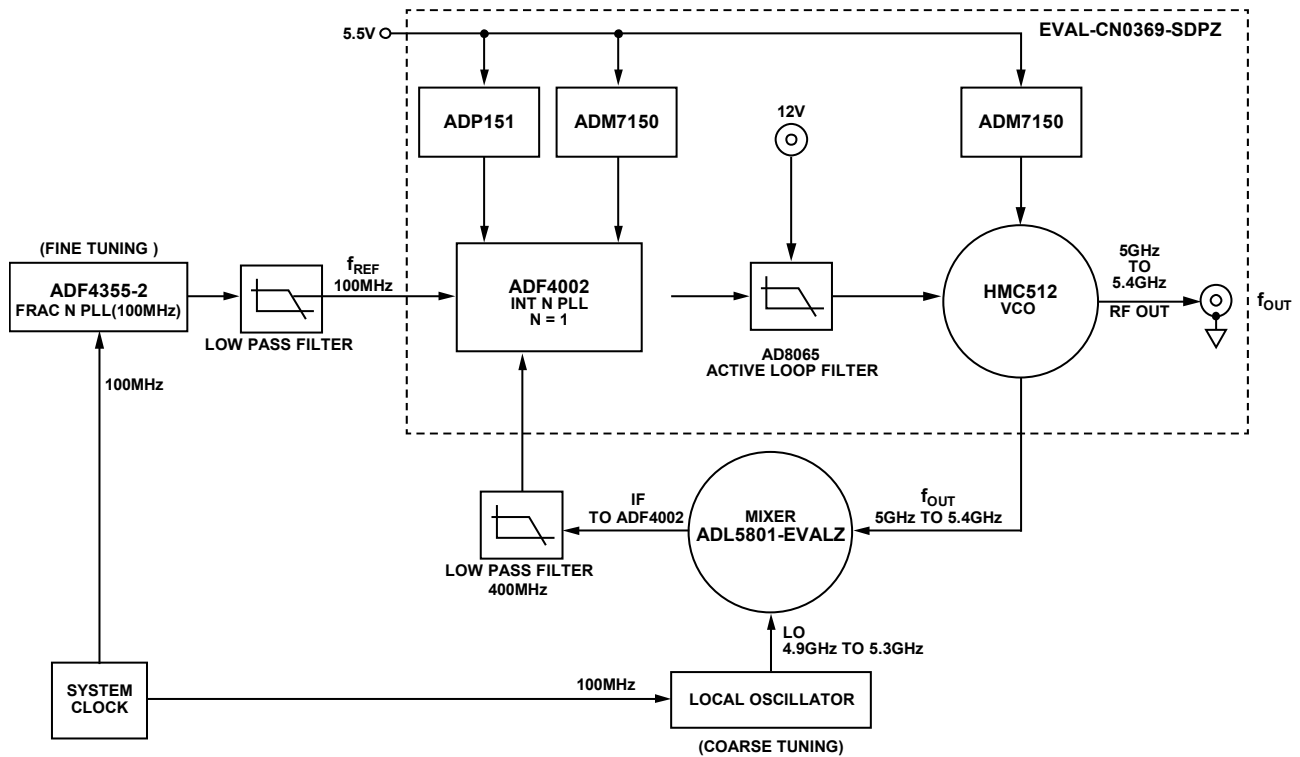

Figure 1. Block Diagram of the Translation Loop Synthesizer
The circuit block diagram shown in Figure 1 is a low phase noise translation loop synthesizer (also known as an offset loop). This circuit translates the lower 100 MHz reference frequency of the ADF4002 phase locked loop (PLL) up to a higher frequency range of 5.0 GHz to 5.4 GHz, as determined by the frequency of the local oscillator (LO).
The translation loop synthesizer in Figure 1 locks the higher frequency 4.8 GHz to 5.2 GHz VCO to the 100 MHz f_{REF} signal. The ADL5801 mixer and the LO together perform the divider function of this PLL.
Using the configuration shown in Figure 1, the f_{OUT} rms jitter measures less than 50 fs, as shown in Table 2.
Table 2. Phase Noise of Translation Loop PLL of Figure 1